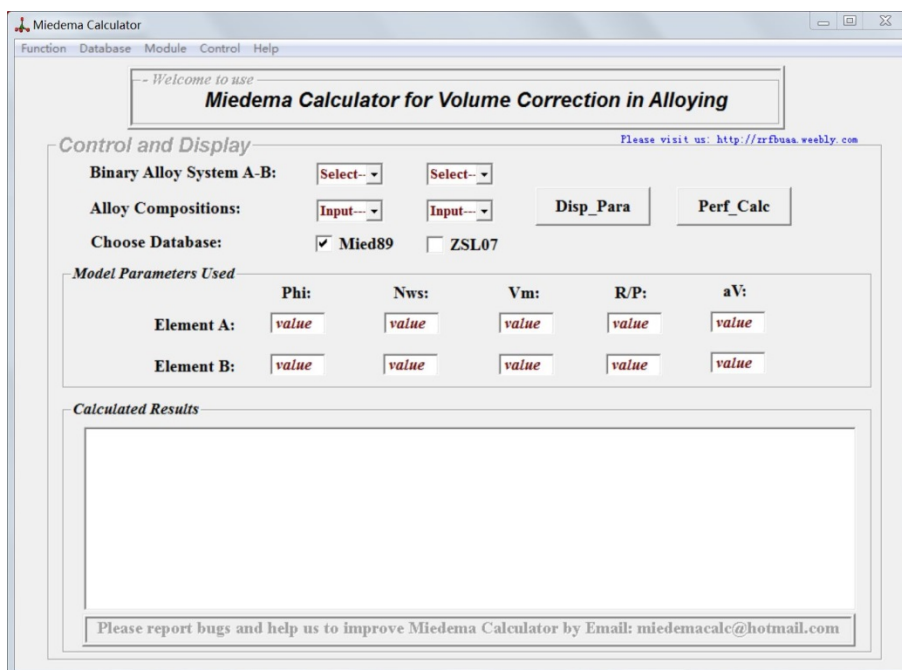

Fig. 4.5. The module interface for the volume corrections of solid solutions and compounds upon alloying.
- 2) In menu, choose “Module” -> “Volume correction in alloying” to launch the module interface (see Fig. 4.5);